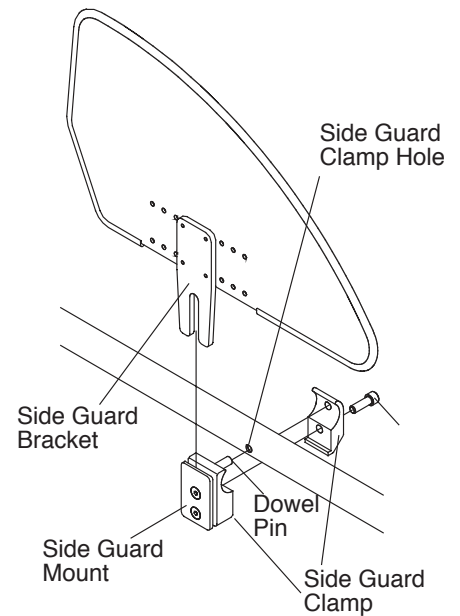

Figure 37
2. Remove the Allen Screw that secures the two halves of the side guard clamp to the frame. See Figure 37.
1. Align the two halves of the side guard clamp around the seat tube of the chair frame. See Figure 37. The half of the side guard clamp to which the side guard mount is attached has a dowel pin protruding from the clamp that must be inserted in the side guard clamp hole in the frame.